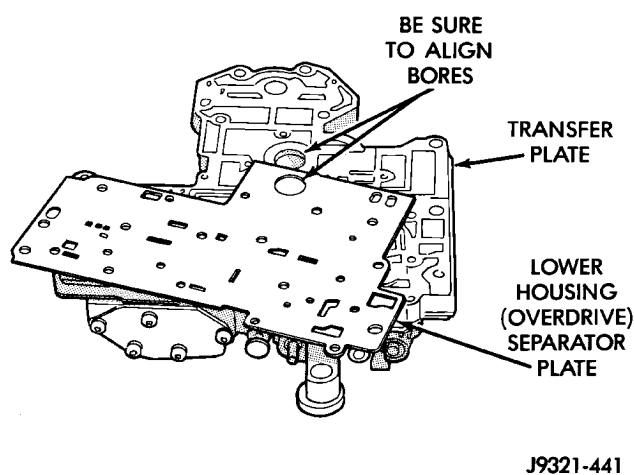

Fig. 81 Lower Housing Separator Plate
(4) Position lower housing separator plate on transfer plate (Fig. 81).